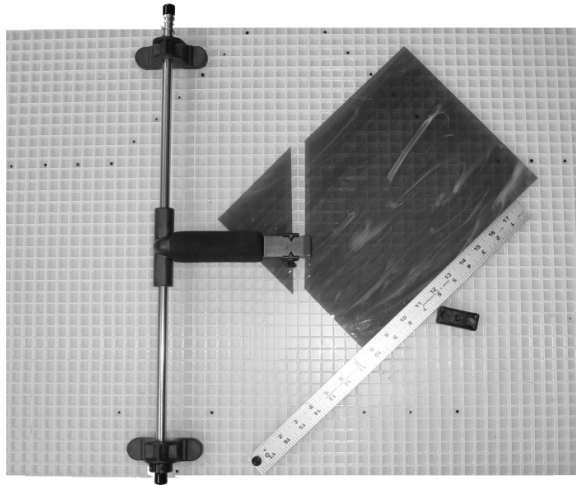

figure 5
7. The StripPro may be used for scoring angles. The angle may be set infinitely by plugging in the extra grid adapter and turning it against the ruler to adjust to the correct angle desired. It will be necessary to move the grid adapter to different squares to achieve different angles. *see figure 5*